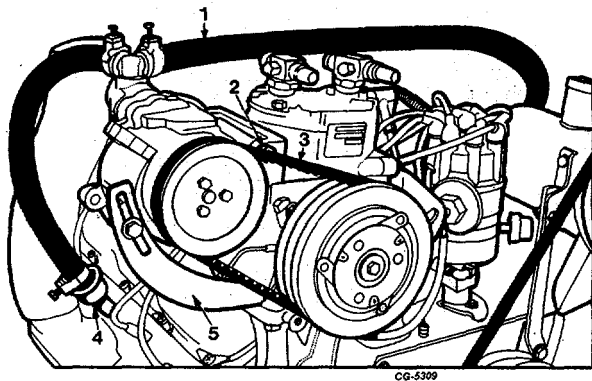

Fig. 16 Air Pump Removal
11. Remove hoses to left and right cylinder head check valves from the air pump, if so equipped. Remove air pump adjusting strap bolt and flat washer and air pump mounting bracket bolt, nut and flat washer, Figure 16. Remove air pump.